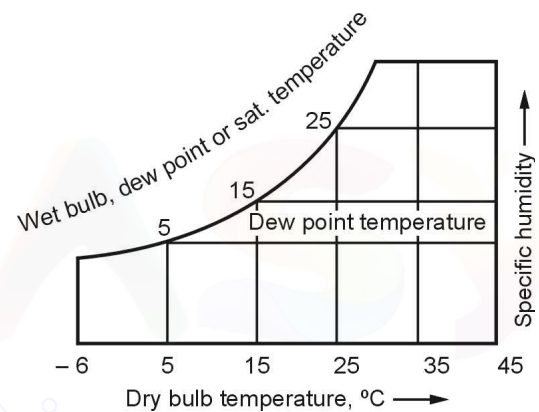

Fig. 5.60 : Dew point temperature lines
- These lines are horizontal i.e. parallel to the abscissa and non-uniformly spaced as shown in Fig. 5.60.